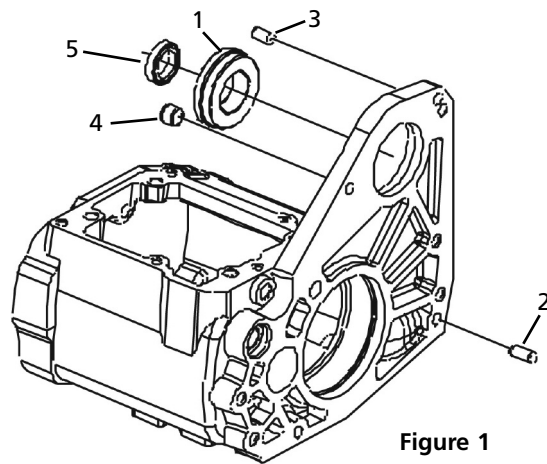

Figure 1
3. Apply thin film of oil to outside of dowel pin 50-8029, dowel pin 50-8172, and roll pin 50-8174 (Items 2, 3, and 4, Figure 1) and press into transmission case until flush with inner primary mounting surface.